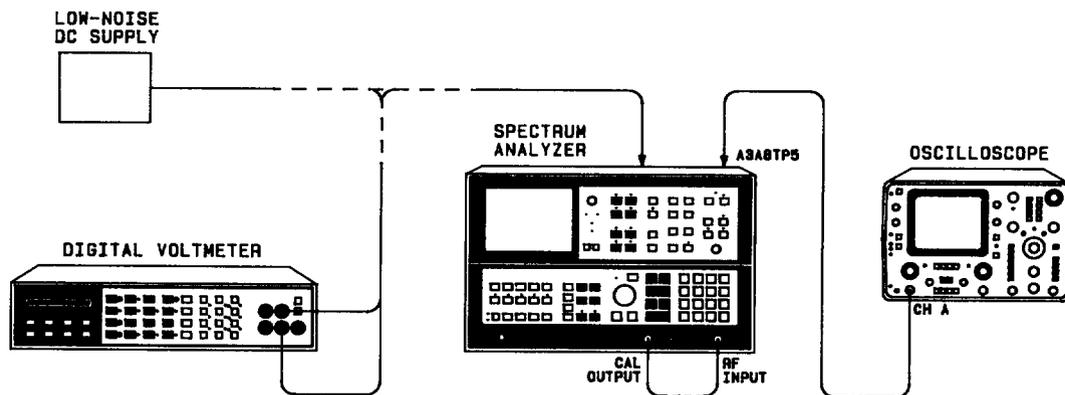

FIGURE 74. ANALOG-TO-DIGITAL CONVERTER ADJUSTMENTS SETUP
1. Position instrument upright as shown in Figure 74 and remove top cover. Install A3A8 Analog-to-Digital Converter Assembly on extender board.